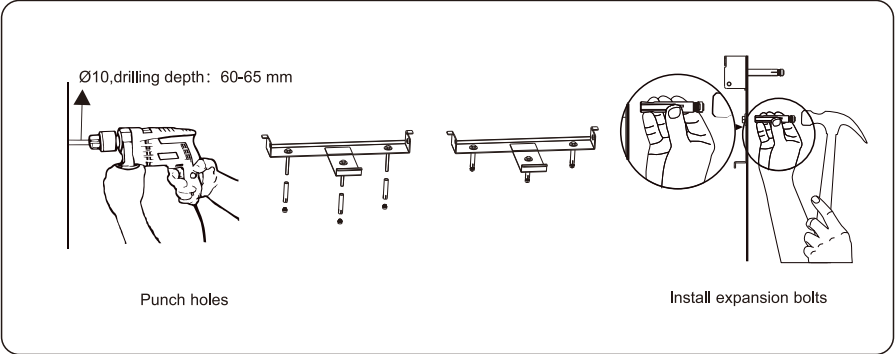

Figure 4.11 Punch holes and install expansion bolts (unit: mm)
Step 4 Drill holes using a hammer drill, insert the threaded bolts (with nuts and sleeves removed) through the holes of the rear panel (install the nuts and sleeves then), secure the rear panel partially on the wall by knocking the bolts completely into the holes using a rubber mallet, as shown in Figure 4.11.